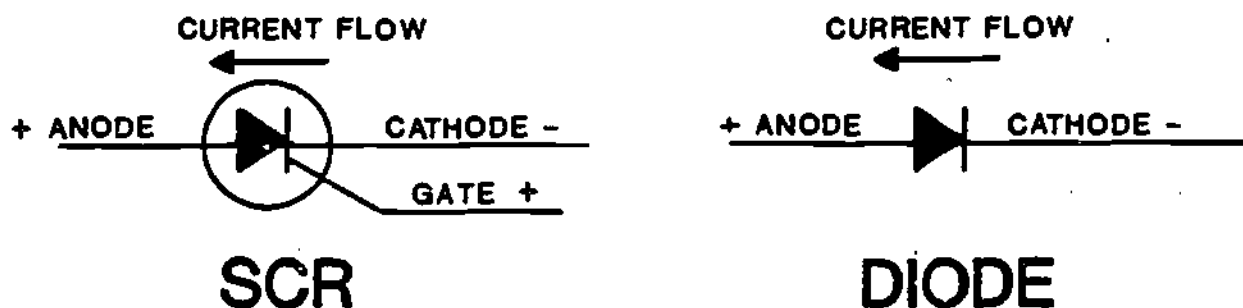

Figure 1
2. The symbol shown in Figure 1 is that of an SCR. In addition to the symbol for an SCR, the symbol for a regular diode is also shown. This is to help you understand the difference between the two components. The additional element of the SCR is called a gate. The gate is used to trigger operation of the SCR. This will be discussed in greater detail in subsequent frames.